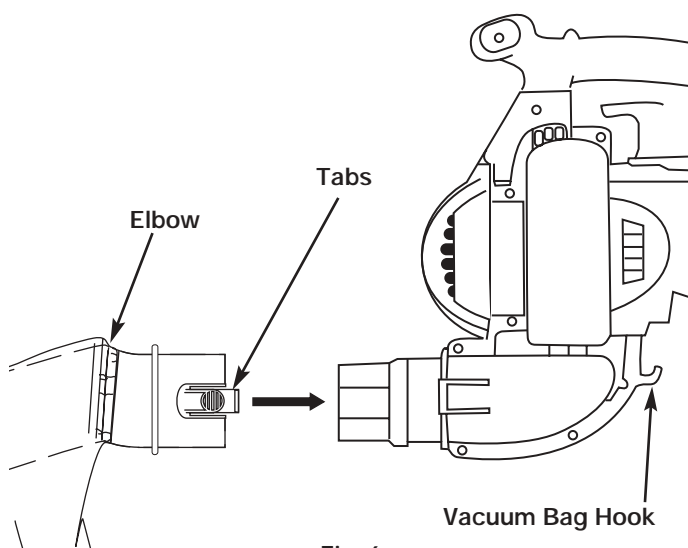

Fig. 6
7. Install the vacuum bag tube over the blower outlet and push it on until both tabs snap into place (Fig. 6). Position the bag so its interior elbow slants downward.
2. Remove the vacuum bag by pressing both tabs on the vacuum bag elbow at the same time and pulling the bag off the blower (Fig. 6).